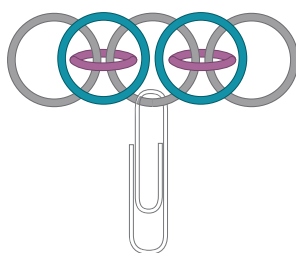

FIG. 2
3. Place 1 large closed (blue) jump ring over each of the 2 small (pink) jump rings (**FIG. 2**).